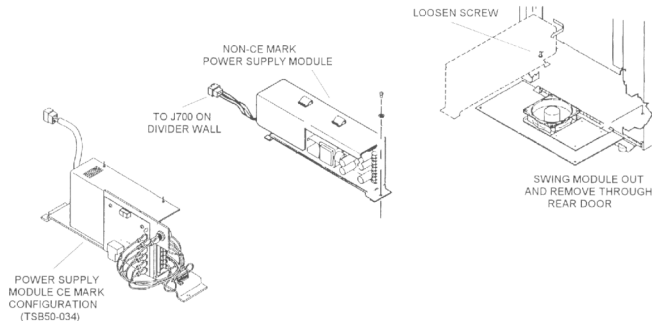

Figure 5-1. Main Power Supply Output Voltage Check
With power ON, lower Left Rear Panel. There are four voltage checks made on Main Power Supply. Locate the terminal strip on the Main Power Supply Bd. (Refer to Figure 5-1 below.)
4. To adjust voltage on a Non-CE Mark power supply (1-43150-01), locate R57 potentiometer. To adjust voltage on a CE Mark power supply (1-43150-02), locate V1 potentiometer. Refer to Figure 5-1.